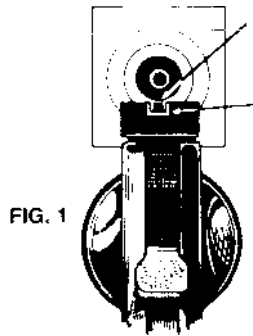

FIG. 1
3. Take aim by aligning the target with front and rear sights (see Figure 1).